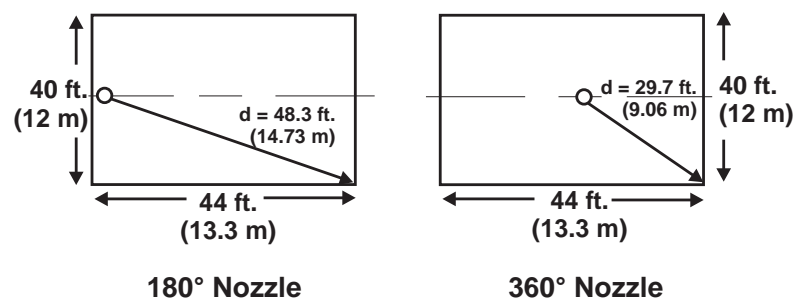

Figure 4-3. Nozzle Placement and Coverage
180° nozzles have a maximum coverage area defined as any rectangle that can be inscribed in a semicircle of distance 48.3 ft (14.73 m, diagonal of a rectangle 20' x 44'). Refer to Figure 4-3 for further information.
- **360° Nozzles**-360° nozzles must be located as close to the center of the enclosure as possible. 360° nozzles have a maximum coverage area defined as any rectangle that can be inscribed in a circle of radius 29.7 ft (9.06 m, diagonal of a rectangle 20' x 22'). Refer to Figure 4-3 for further information.